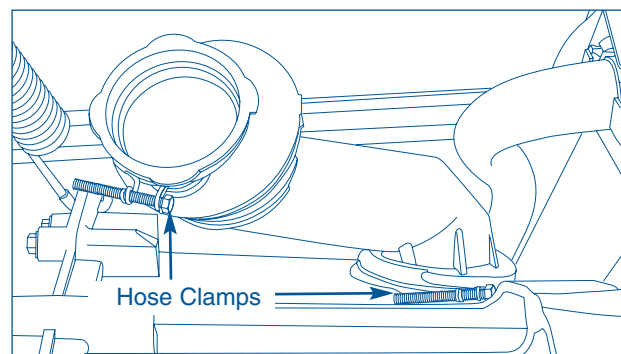

Figure 4-41.
5. Using a #2 square bit screwdriver, disconnect detergent dispenser outlet hose. (See Figure 4-41)
3. Using a #2 square bit screwdriver, loosen the (2) clamps, one on each end, and slide the hose off. (See Figure 4-41)